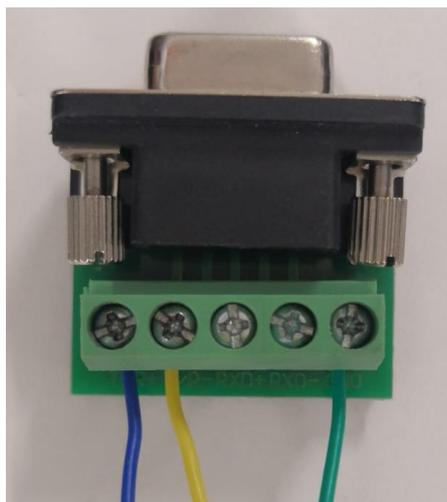

Figure 1-3 RS-485 DB9 Header Connection
- Use USB to RS-485 switch line or USB to RS-232 switch line and RS-232 to RS-485 conversion module to connect the radar to the computer. Generally, the DB9 header of RS-485 serial port defines pin 1 as D+, pin 2 as D-, and pin 5 as GND. All the 3 lines should be connected properly, as shown in Figure 1-3.